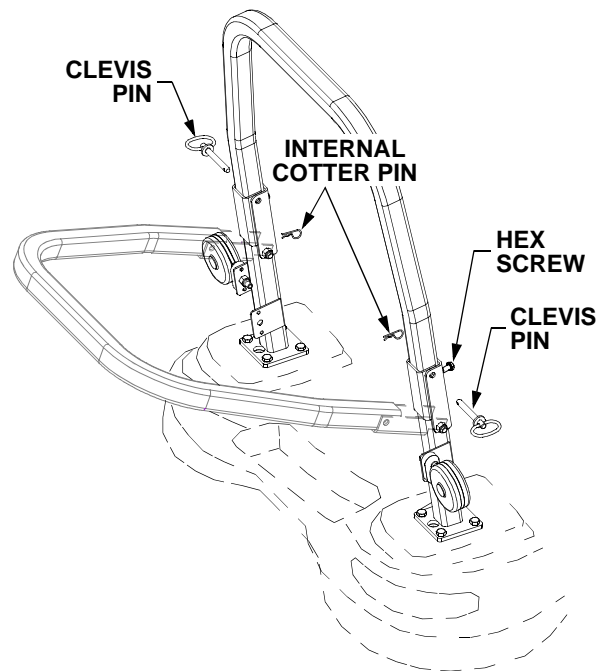

Figure 14
- Slightly loosen the two hex screws on the front of the ROPS to relieve their pressure on the ROPS. See Figure 14.
- Remove the two internal cotter pins, and, while supporting the ROPS, withdraw the clevis pins. See Figure 14. Carefully lower the ROPS.